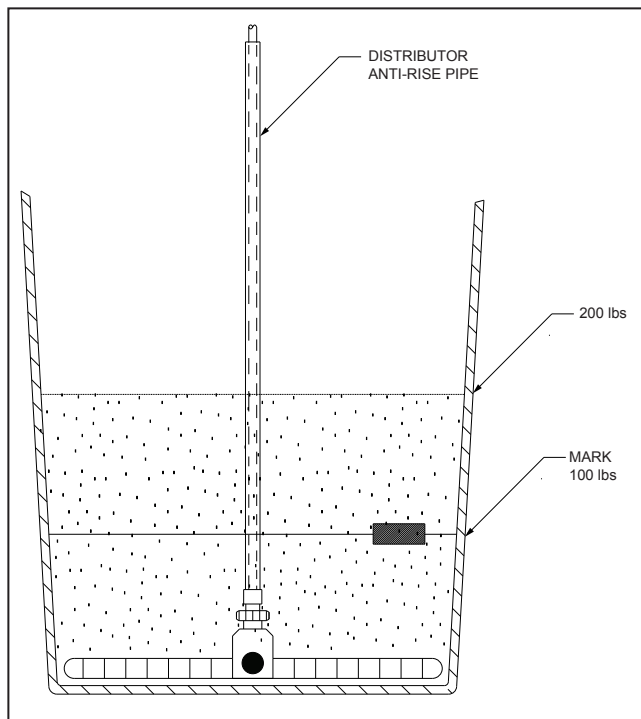

FIGURE 1.
3. Cut clear, flexible vinyl tubing to 34" length and add a tubing insert (Key No. 32 on Parts List) to each end. Slip free end of tubing into connector at outlet of syphon breaker and tighten compression nut until tubing is held securely. Slide PVC anti-rise pipe over tubing. Connect other end of tubing to distributor tube assembly in same manner. Distributor tube assembly should rest just at bottom of tank. (See Figure 1).